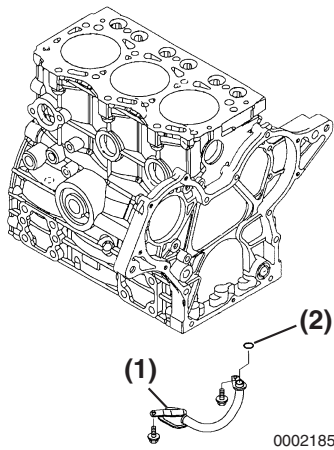

Figure 4-2-100
1. Reinstall the oil pickup tube (**Figure 4-2-100, (1)**) and a new O-ring (**Figure 4-2-100, (2)**).